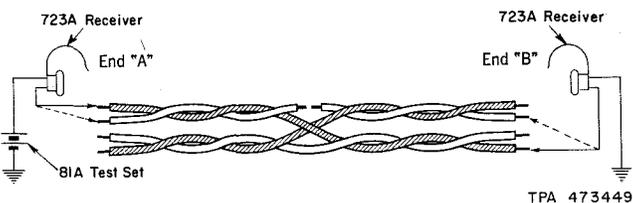

Fig. 7—Test For Opens and Split Pairs
4.06 When all pairs in the first group are tested, the tagged pairs should be picked up at end (B). Each wire involved should be tested with a battery and receiver to determine whether the pairs are open or split, as shown in Fig. 7.